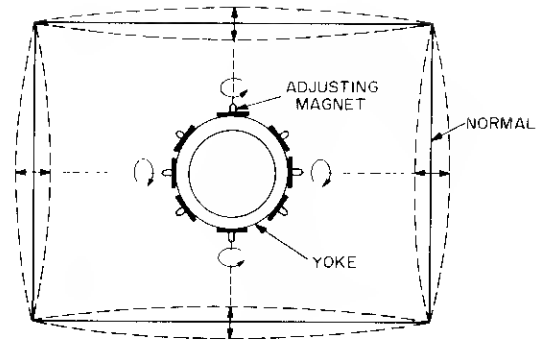

Figure 5-62.
Video Distortion Adjustment (Figures 5-62, 5-63)
Perform this adjustment if the CRT exhibits the abnormal effects shown in Figure 5-62.
Step 2. Rotate the magnet to obtain the desired video display labeled "NORMAL" on Figure 5-62.